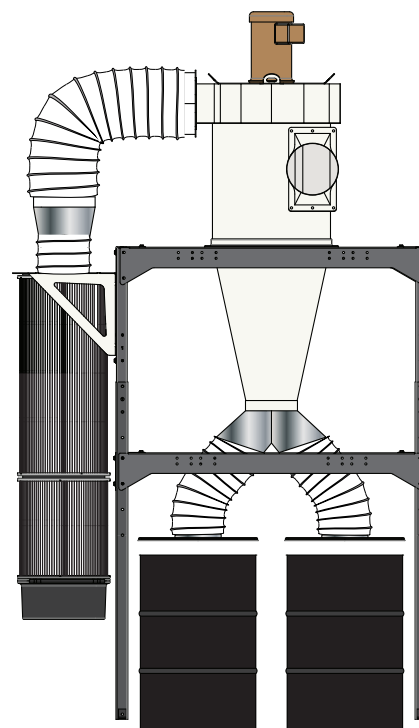

FIG. 19
Unclamp the Drum's Lids (X) and test to see if the Drums (Y) are easy to remove from underneath the Wye (Z) [FIG. 19].